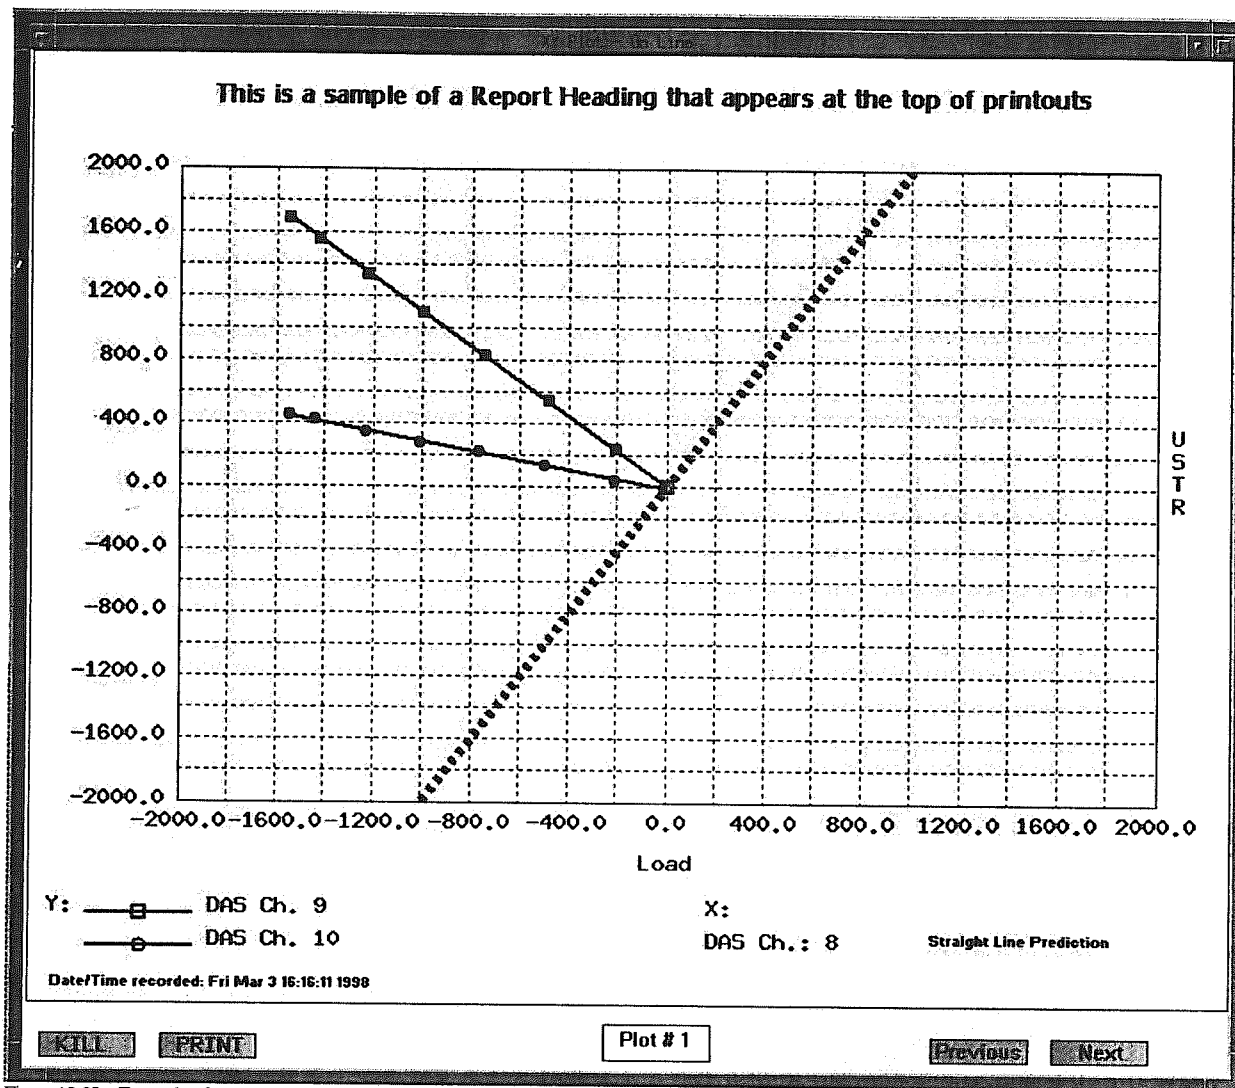

Figure 12-25 Example of a Replay XY Plot Display
Step 4) Select **OK** and press **RETURN**. The selected plot will be displayed on the X-terminal. **Figure 12-25** provides an example of a **Replay XY Plot** display.